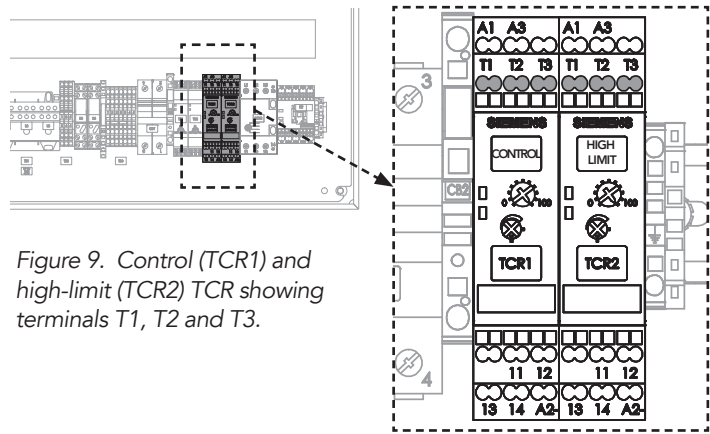

Figure 9. Control (TCR1) and high-limit (TCR2) TCR showing terminals T1, T2 and T3.
3. Using the ohmmeter, measure the resistance between TCR terminals **T1** and **T2** (See Fig. 9):